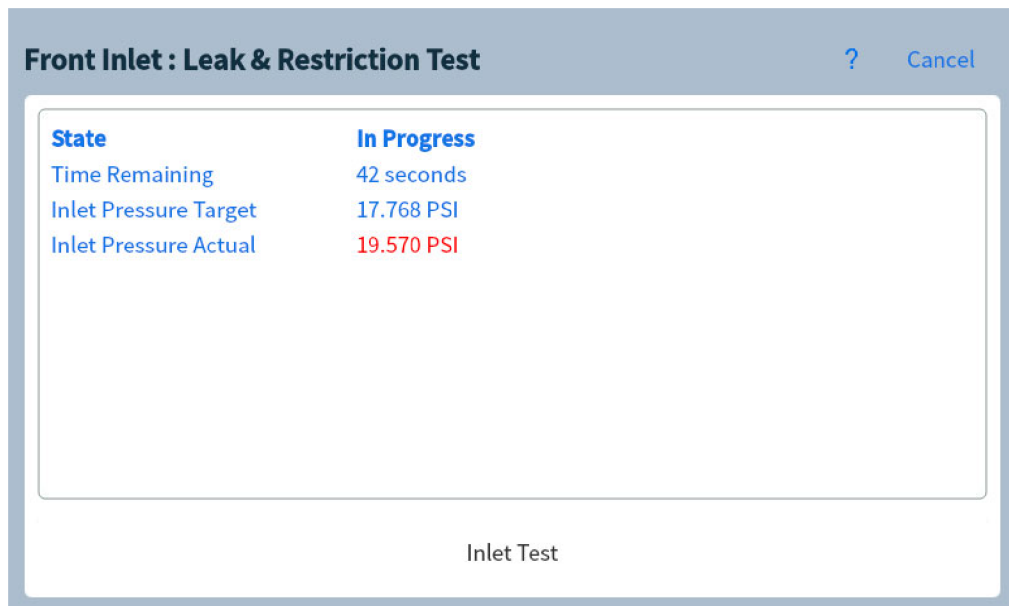

Figure 40. Leak & Restriction Test page
3. Select **Start Test**. Testing is initiated. Test details are displayed along with test results. See Figure 40.